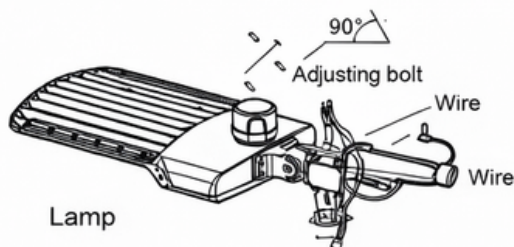

Figure 14
Step 2: Loosen the four bolts on ADM bracket, connect the wires correctly the wires into the yopl es. (Figure 14)
Notice: Adjustable angle is 0-90° (Figure 14), consider the rapr side lid and tighten it. (Figure 14)